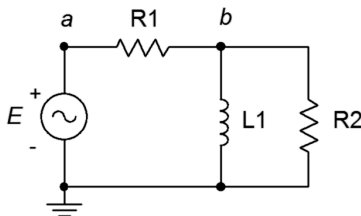

Figure 4.22
38. Given the circuit of Figure 4.22, determine a value for L such that v_b is 1 volt. The source is a 6 volt peak sine at 50 kHz, $R1 = 510 \text{ }\Omega$ and $R2 = 220 \text{ }\Omega$.